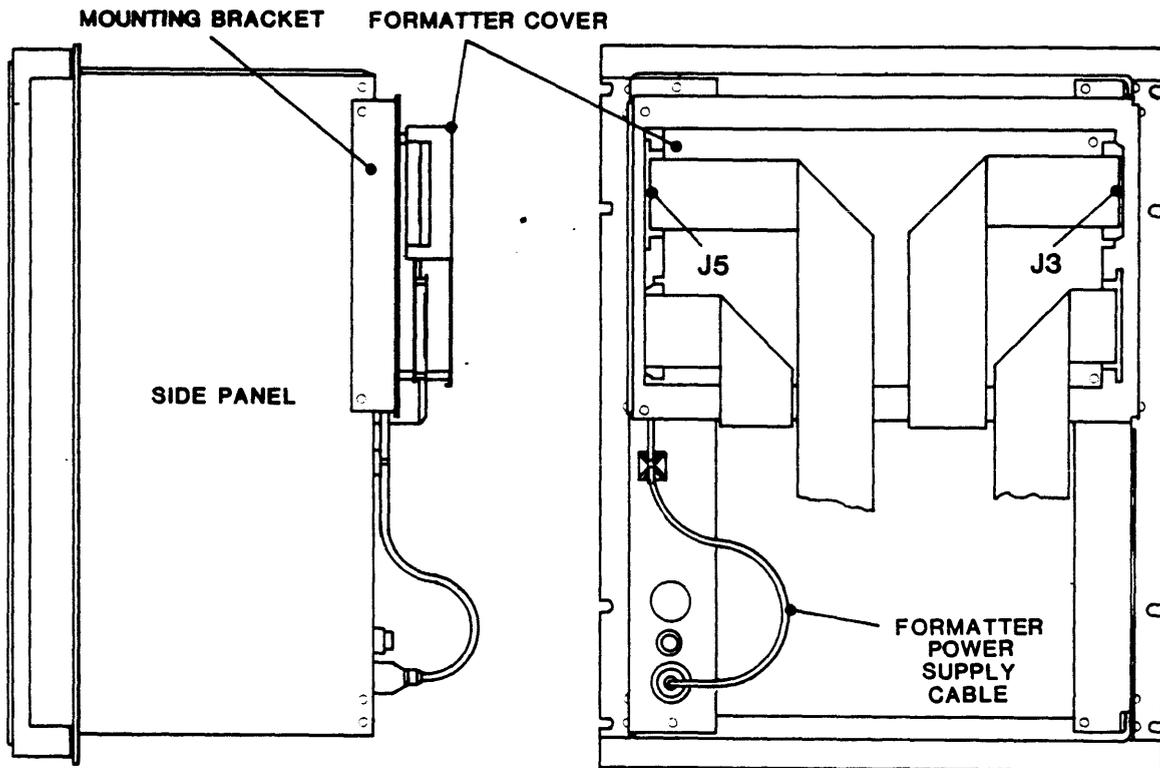

Figure 2-3. Model 9000 Tape Drive Formatter Installation
- D. Remove Formatter Mounting Screws (Figure 2-3) from the Drive side panels.
- G. Plug the Formatter Power Cord into the outlet as illustrated (Figure 2-3).